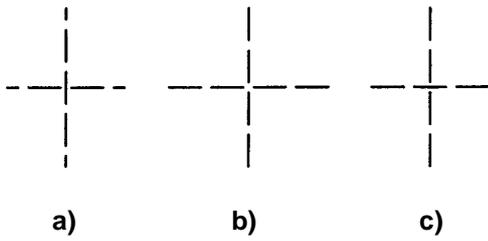

Figure 1-15. Perforations 3
- At the intersection of horizontal and vertical perforations, the cut part of the perforations must not cross each other (Refer to Figure 1-15.).